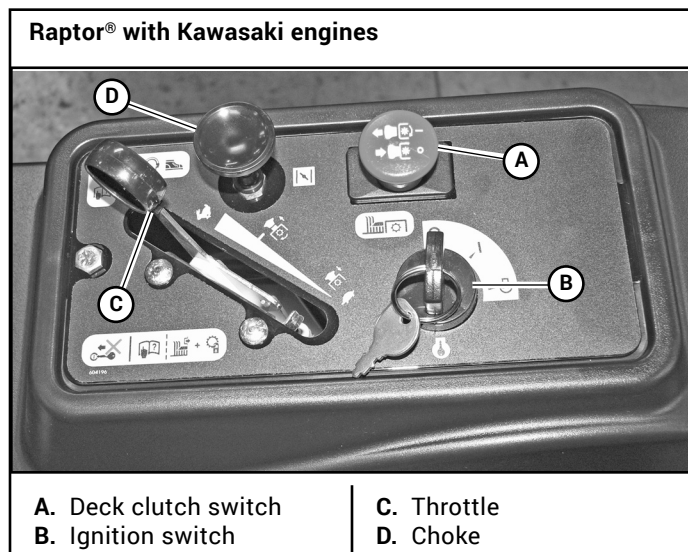
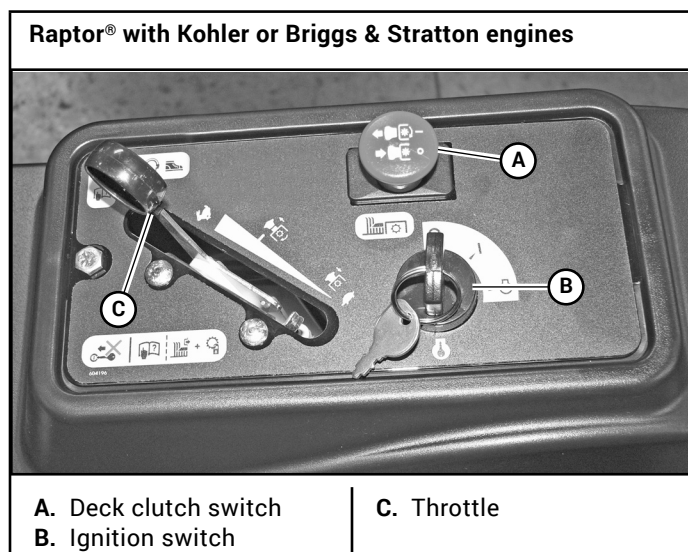
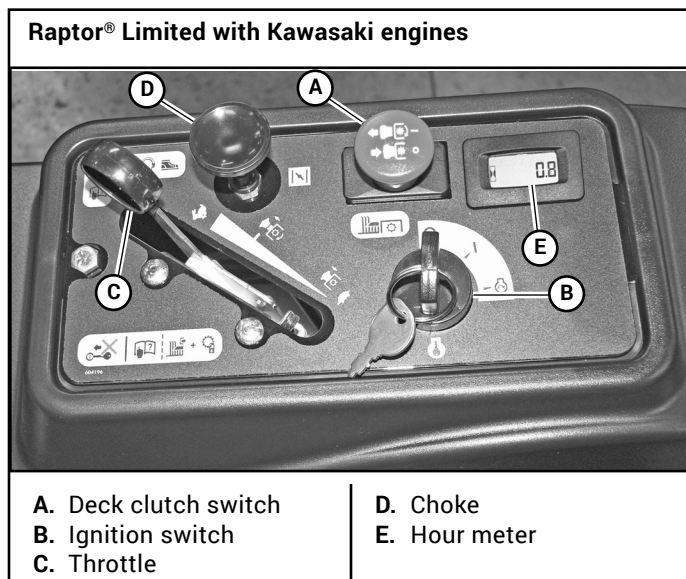

Figure 3-1
Figure 3-2
Figure 3-3
- A. Deck clutch switch (Figure 3-1, Figure 3-2 & Figure 3-3)** – this switch engages the deck. Pull the switch up to engage and push the switch down to disengage the clutch.
- B. Ignition switch (Figure 3-1, Figure 3-2 & Figure 3-3)** – a three position switch: “OFF”, “RUN”, and “START”. With the key inserted, rotate it clockwise to the “START” position; release the key when the engine starts, and
- C. Throttle control (Figure 3-1, Figure 3-2 & Figure 3-3)** – a cable is linked to the engine throttle for controlling engine speed. Move the lever forward to increase engine rpm, move the lever rearward to decrease engine rpm.
- D. Choke control (Figure 3-1 & Figure 3-3)** – a cable is linked to manually operate the engine choke. When the lever is in the down position, the choke is in the “OFF” (run) position. When the knob is pulled up, the choke is in the “ON” (start) position. **Do not** operate the machine in the “ON” (start) position.
- E. Electronic hour meter (Figure 3-3)** – registers 1/10 hour increments up to 9,999.9 total hours. Connected to the ignition switch, the meter records the accumulative time while the ignition key is switched to the RUN position.